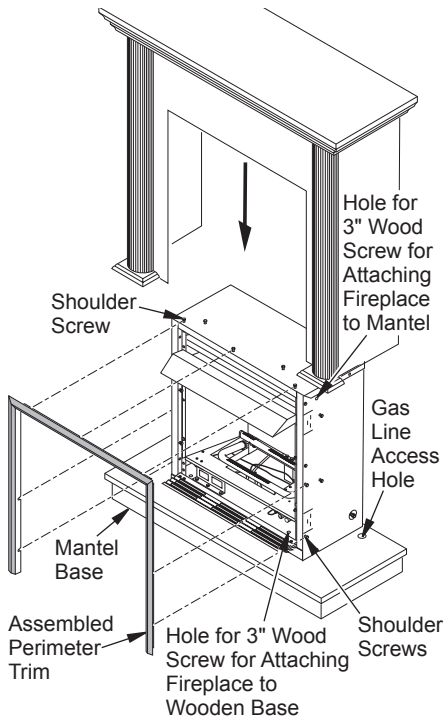

Figure 12 - Attaching Perimeter Trim to Fireplace
3. Place fireplace on wood base (see Figure 12).
4. Place mantel around fireplace on base (see Figure 12).
6. Firmly snap perimeter trim kit on shoulder screws. Shoulder screws are located on fireplace cabinet (see Figure 12, page 12).
9. Use two 3" wood screws provided and attach base of fireplace to wooden mantel base (see Figure 12, page 12).
11. Cut an access hole in base to run flexible gas line to fireplace (see Figure 12, page 12). Make sure to locate access hole so mantel will cover it when installed. **Note:** You can secure base to floor using wood screws. Countersink screw heads and putty over.
15. Place perimeter trim kit on the shoulder screws located on the side and top of the fireplace. Firmly snap trim over shoulder screws on fireplace (see Figure 12, page 12).
16. Adjust assembly to remove any gaps. Attach remaining two 3" wood screws from hardware pack through openings inside of fireplace sides into the mantel. The openings are located at top behind the area for top louver (see Figure 12, page 12).